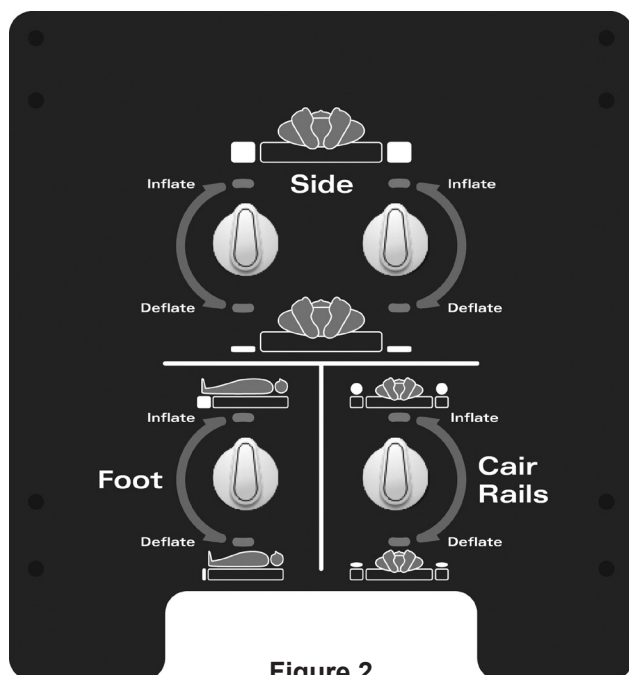

Figure 2
- Place the Arise 1000 EX mattress with the hose connection at the foot end of the bed and the therapy cells facing up. Secure the eight (8) straps on the mattress securely to the loops provided on the Bari10A bed frame. **Note:** These straps should not be over tightened as they may interfere with the Bari10A bed deck elements during width reduction.
- If the therapy pad is not already on the mattress, attach it via the longitudinal zippers to the mattress. **Note:** This will require threading the hose set through the control window opening on the therapy cover located on the mattress side at the patients left foot. Also attach the snaps around the control panel opening from the therapy cover to the mattress control panel in four (4) places so that the control panel is not obscured (Figure 2).
- The CairRails air bolsters can be inflated or deflated as required. Locate the control knob (Figure 2) on the lower right of the control panel on the mattress. Next, inflate/deflate the CairRails by moving the control knob to the up (inflate) or down (deflate) position.
6. Inflate the extension foot cells by turning the lower left knob on the mattress control panel (Figure 2) up. After 2-5 minutes the cells will inflate. Leave the knob in this position to maintain inflation.
For the Arise® 1000 EX mattress, the control unit can be disconnected from the mattress as the 3" foam base will continue to support the patient. If the Bari10A bed frame is to be reduced in width for transport it may be necessary to deflate the CairRails. This can be done at the mattress control panel (Figure 2, pg 9) by turning the lower right control knob down.